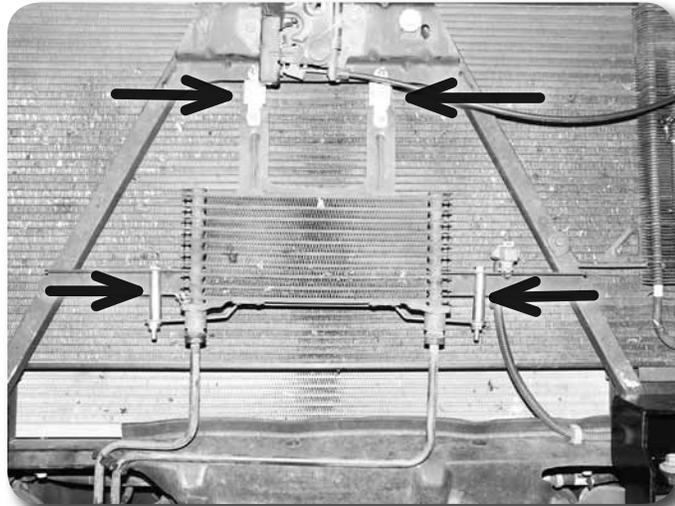

Figure 24
46. Position the provided 2" oil cooler spacer sleeves between the two bottom oil cooler mounting tabs and the original mount on the core support **Figure 24**. Fasten the spacers and cooler to the core support with $\frac{1}{4}$ " x 3" bolts, nuts and $\frac{1}{4}$ " USS washers. Torque to 15 ft-lbs.
47. Mount the cooler lines back in the plastic retaining clip and the bottom of the core support Figure 24.